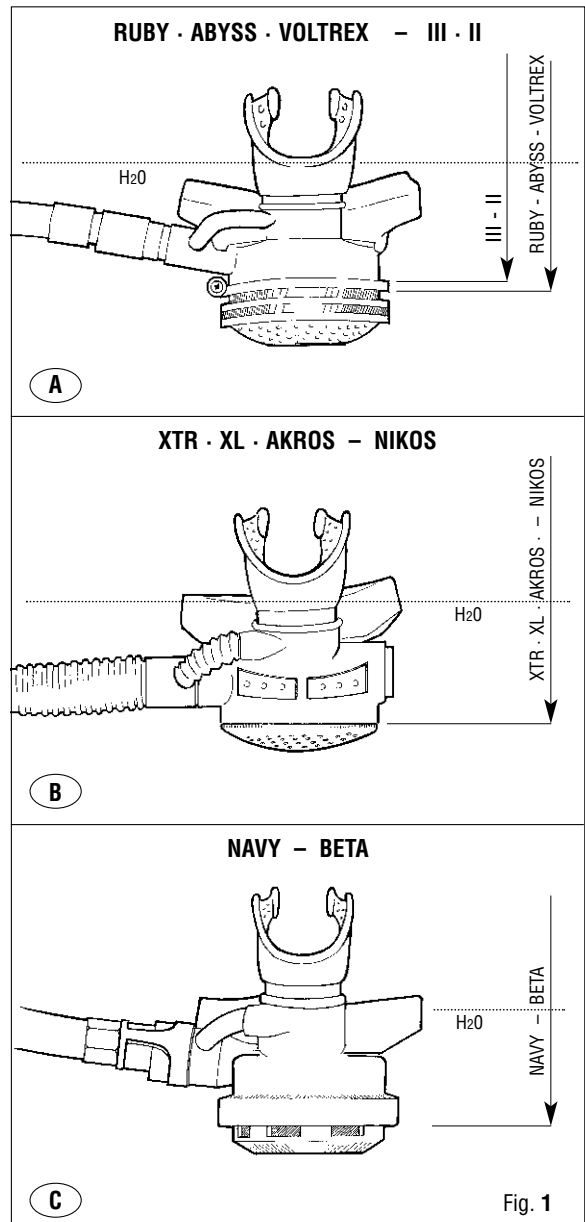

Fig. 1
- b. When the water level, measured on the mouthpiece connector with reference to the point indicated in the diagram (Fig. 1), falls between the cracking values indicated in the table (see table A), the air must start to flow.